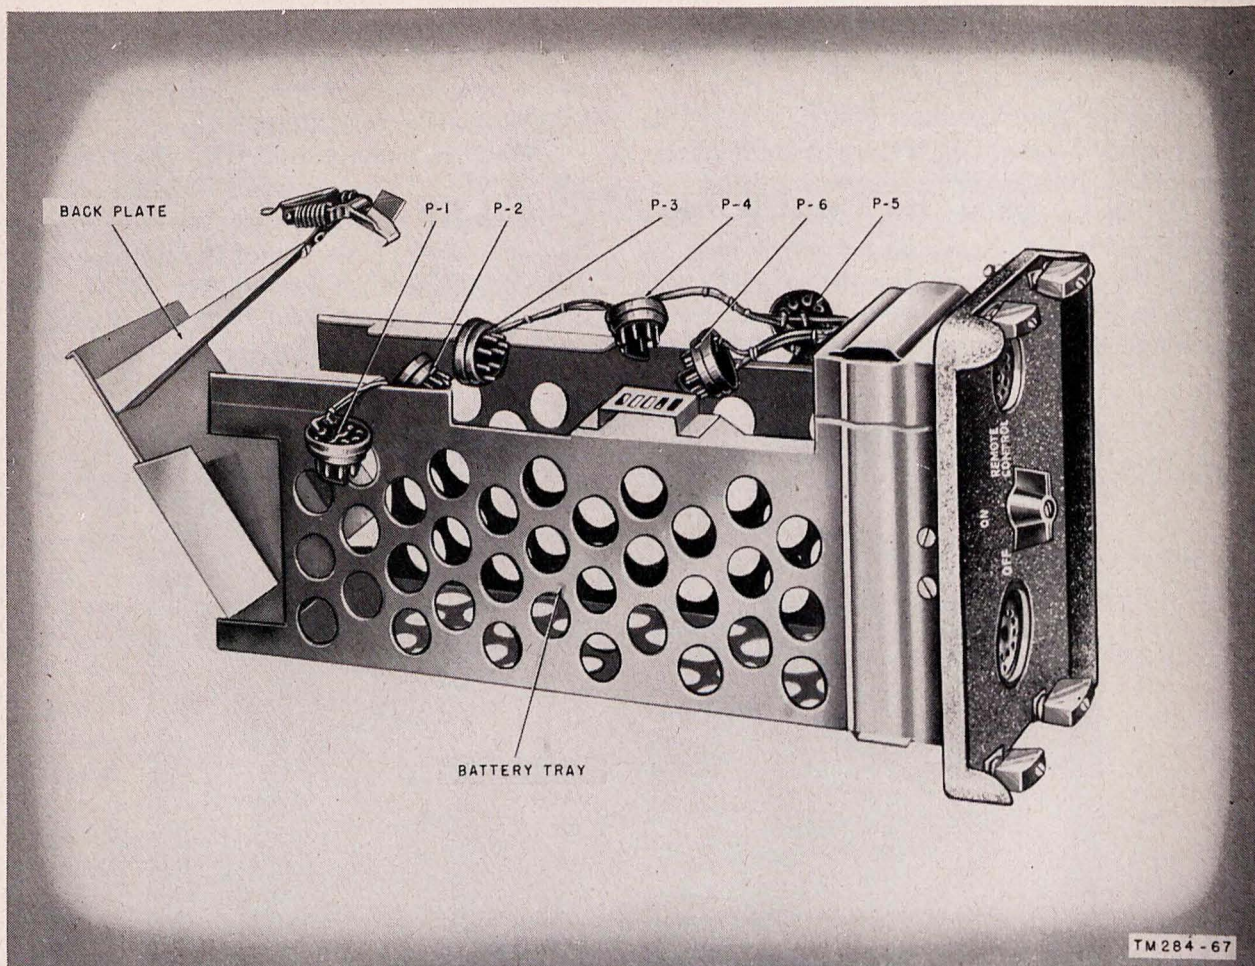

Figure 47. Case CY-590/GRC, case and batteries removed.
b. Loosen the Dzus fasteners on the panel of the battery case and remove the battery tray from the case (fig. 47).